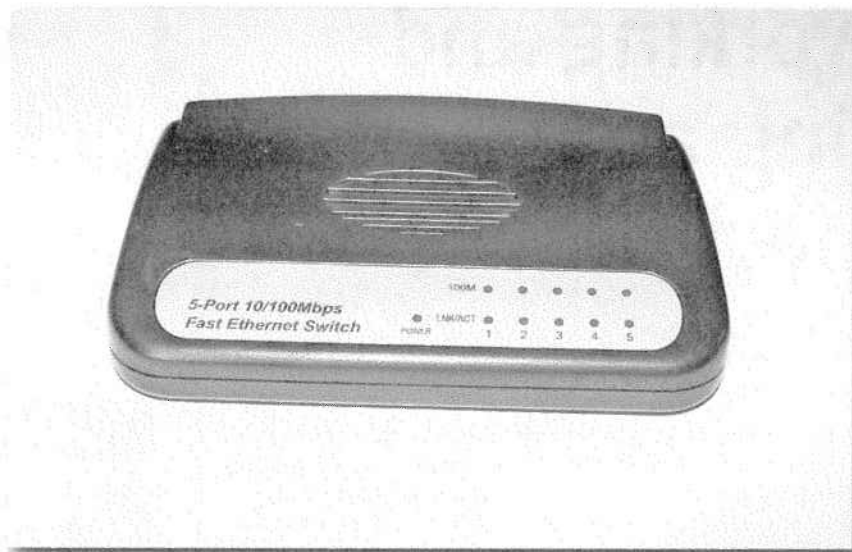
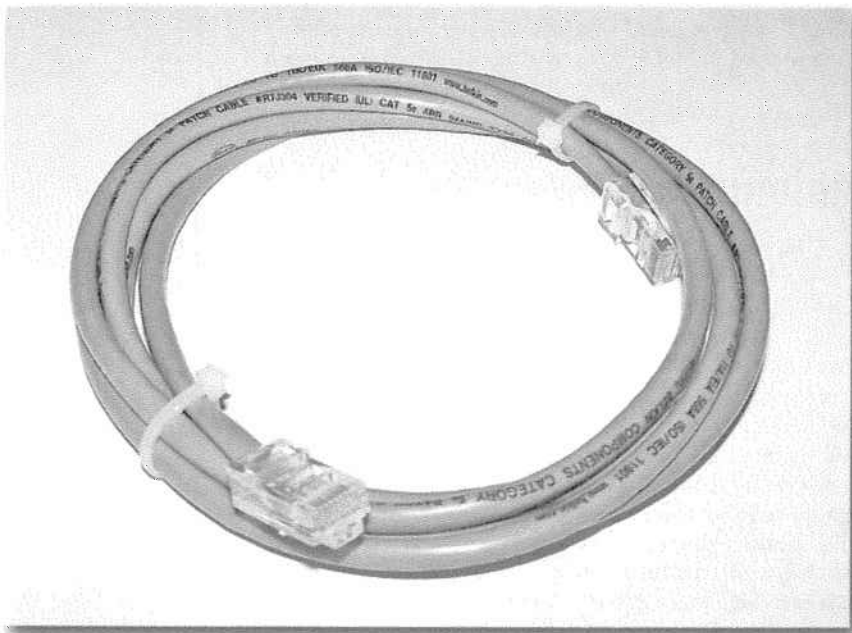
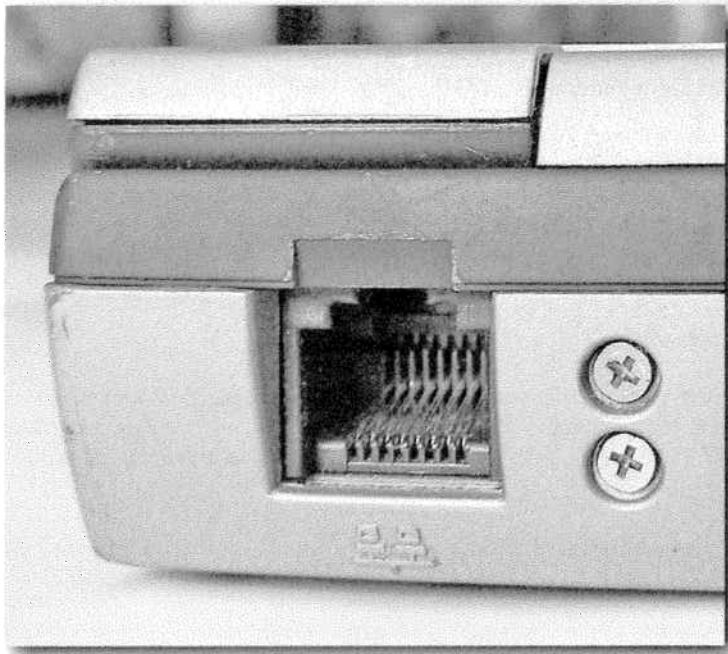

FIGURE 15-1: A mini-Ethernet switch is compact and easy to place in your car.
FIGURE 15-2: An Ethernet cable.
FIGURE 15-3: The Ethernet port on the back of a laptop.
Only three items are needed to set up a wired network in your car: a switch (\$40, see Figure 15-1 for a compact solution from CompUSA, although Netgear also makes a nice metal solution, and there are other manufacturers with similar products), Ethernet cables (\$3–\$10 each, see Figure 15-2), and one machine or more that has an Ethernet port (all modern laptops do, see an example port in Figure 15-3). If you want to go wireless, all you need are a wireless access point (WAP) for all the devices to connect to and a laptop with a wireless card. I suggest you go the wired-switch route, because with wireless you can run into bandwidth issues and must assume everyone has a compatible wireless card, whereas Ethernet will just work as long as someone has an Ethernet port in their laptop (and like I said, practically all of them do).
- A wired Ethernet switch, such as the compact solution shown in Figure 15-1, if you are not using a wireless solution (~\$40)